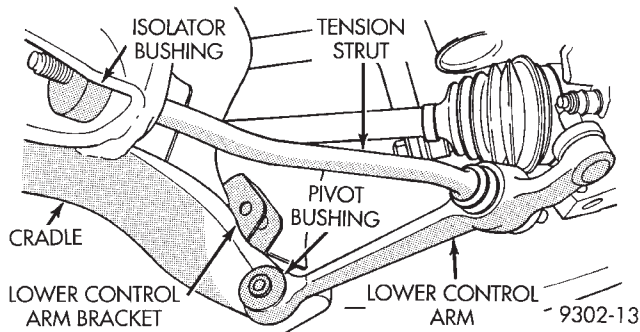

**Fig. 42 Lower Control Arm Remove/Install**
(7) Separate lower control arm and tension strut from the cradle as an assembly. Lower control arm is removed from cradle, by first removing pivot bushing from cradle and then sliding tension strut out of isolator bushing (Fig. 42).
(1) Install the lower control arm on the cradle using the following sequence. Install tension strut and isolator bushing into cradle first, then install lower control arm pivot bushing into bracket on cradle (Fig. 42).